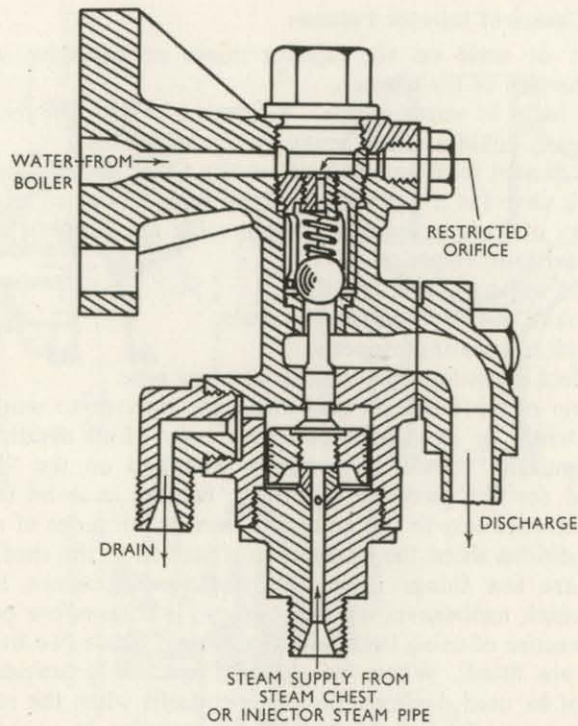

Fig. 30 CONTINUOUS BLOWDOWN VALVE
- (12) Q. What purpose is served by the continuous blowdown valve?
A. To keep down the concentration of soluble salts in the boiler water on regions where water softening is in use, and this is done by allowing a small measured quantity of water to pass out of the boiler continuously whilst (a) the regulator is open, or (b) whilst injectors are working (Fig. 30). The use of this fitting, therefore, will tend to prevent priming.
- (13) Q. What is the purpose of the manual-operated blowdown valve?
- (14) Q. What is priming and foaming? What would you do when either occurs?